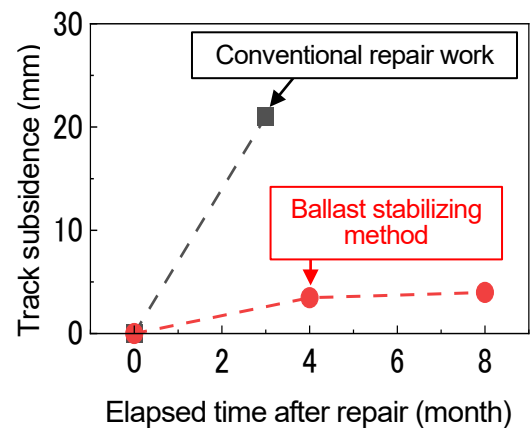

Fig. 4 Comparison of subsidence amount (Repair work with multiple tie tamper)
- We conducted ballast stabilizing repair of the section that has subsided 20 mm 3 months after conventional repair work was done. It was confirmed that subsidence remained within 5 mm even after 6 months passed (Fig. 4).